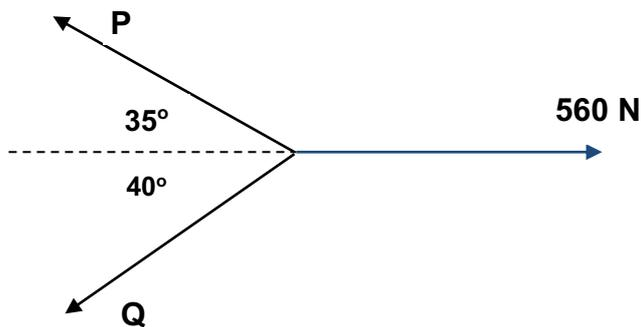

FIGURE 4
3.3 Three forces shown in FIGURE 4 below are in equilibrium. Calculate the magnitude of the unknown forces analytically.